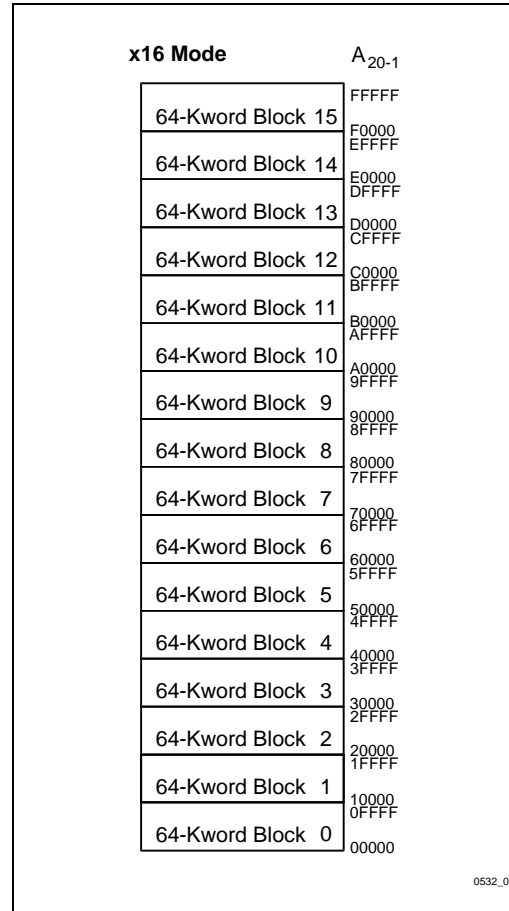

Figure 5. 28F016XS Memory Map (Word-Wide Mode)
The GSR and BSR memory maps for Byte-Wide and Word-Wide modes are shown in Figures 5 and 6.
1. RA can be the GSR address or any BSR address. See Figures 5 and 6 for Extended Status Register memory maps.